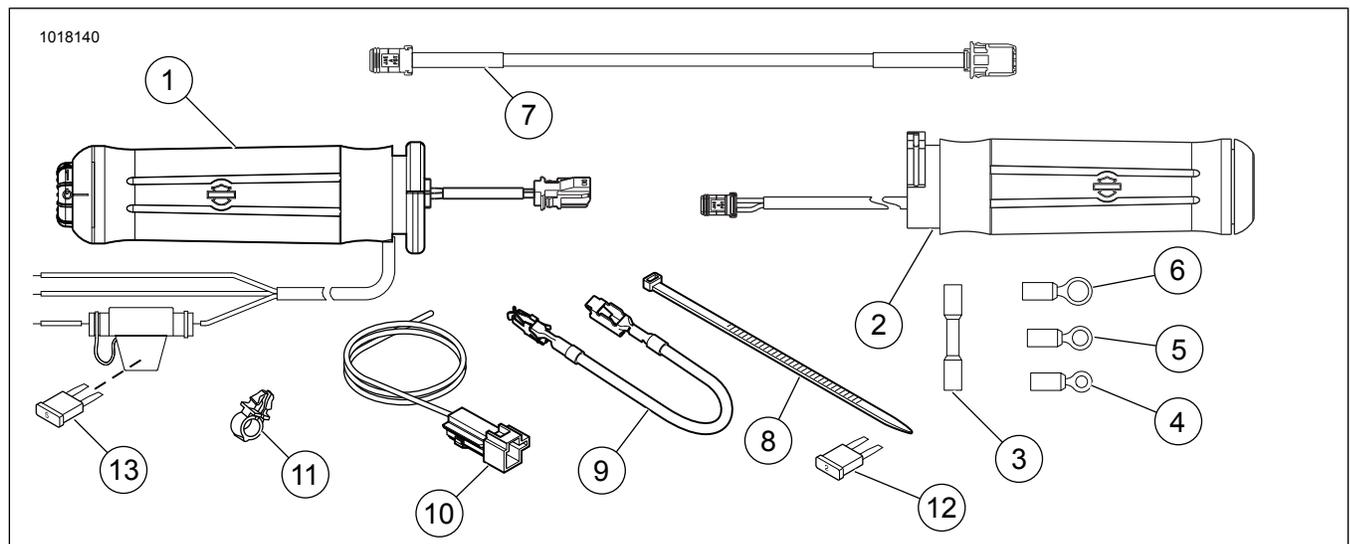

Figure 22. Service Parts, Heated Hand Grip Kits
3. See Figure 22. Select the correct ring terminal (4, 5 or 6) from the kit to fit the silver terminal stud (with the red wire) on the circuit breaker.
1. See Figure 22. Select the correct ring terminal (4, 5 or 6) from the kit to fit the silver terminal stud (with the red wire) on the circuit breaker.
2. See Figure 22. Select the correct ring terminal (4, 5 or 6) from the kit to fit the silver terminal stud (with the red wire) on the circuit breaker.
2. See Figure 22. Plug the adapter harness (10) from the kit into the B+ connector.
See Figure 22 and Table 1.